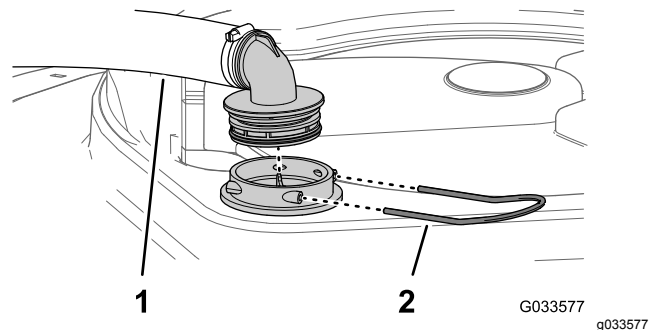

Figure 104
2. At the top of the sprayer tank, remove the retainer that secures the hose fitting attached to the large hose from the filter housing (Figure 104).
3. Remove the hose and hose fitting from the filter housing (Figure 104).